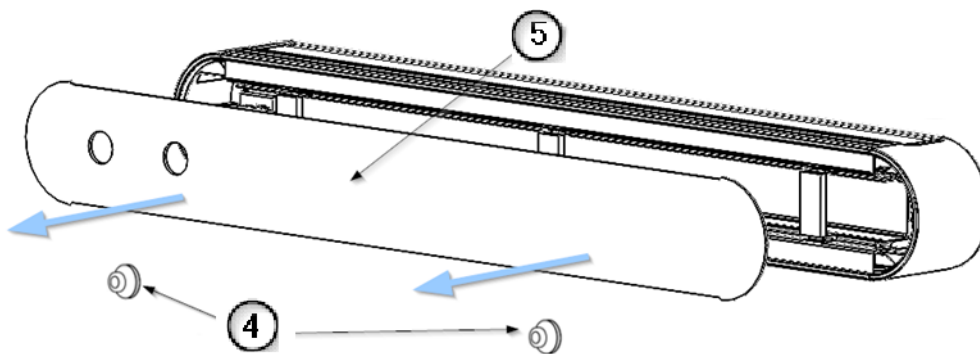

Fig. 3 Removal of the front panel
- Remove the M4 x 8 DIN 7505 screws (3) securing the front panel clamping tabs (2). The bracket (1) is fixed to the front panel.
- Remove the front cover (5) using two suction cups (4) as shown in figure 3 to reveal the pre-installed gas inlets on the device.